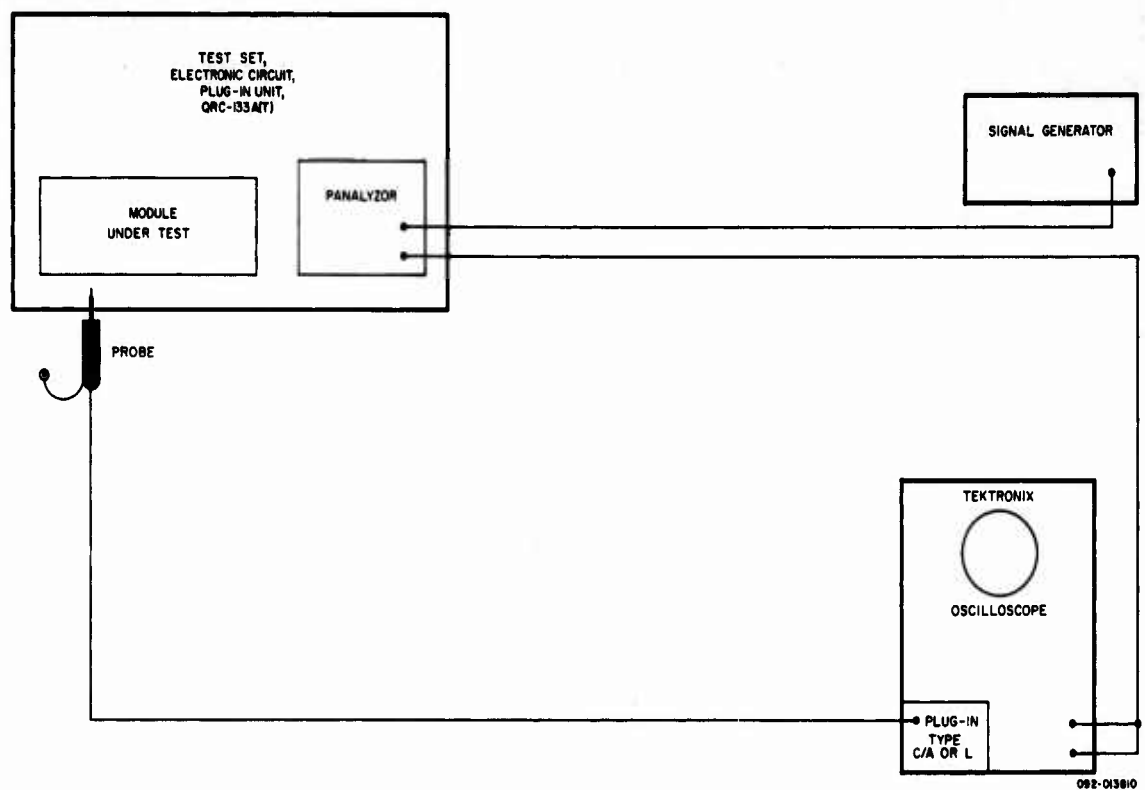
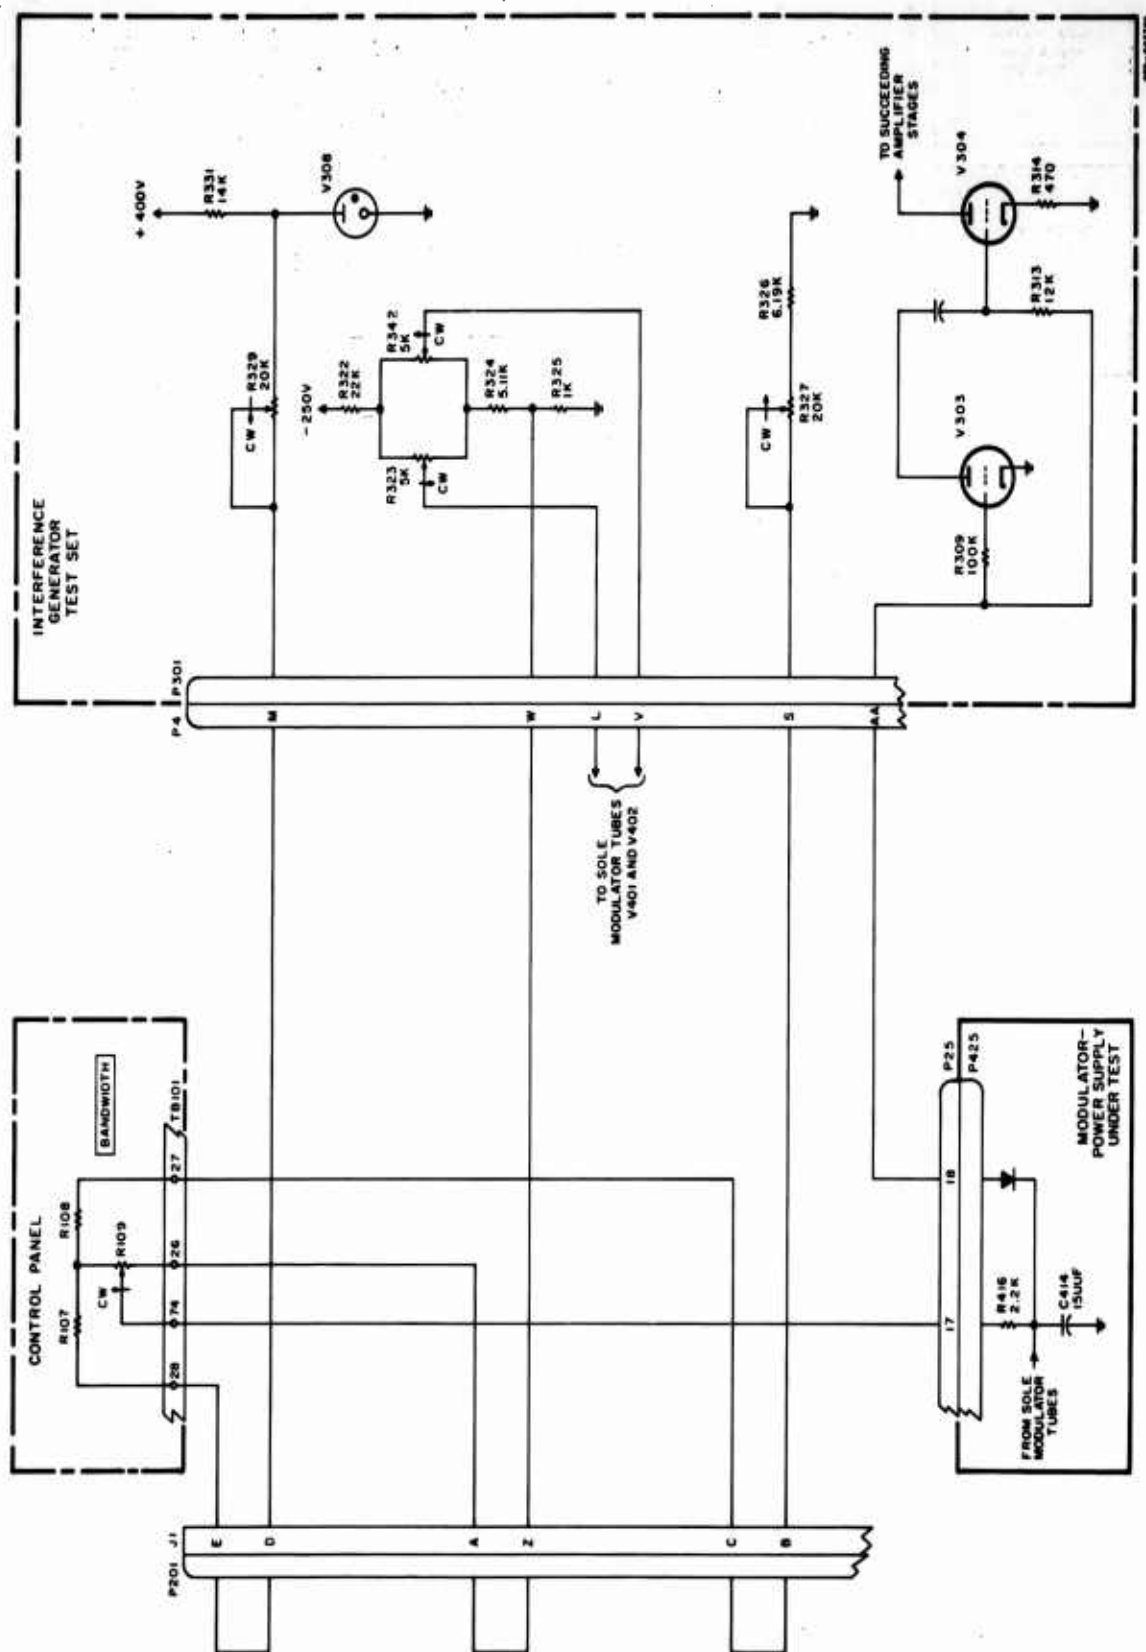
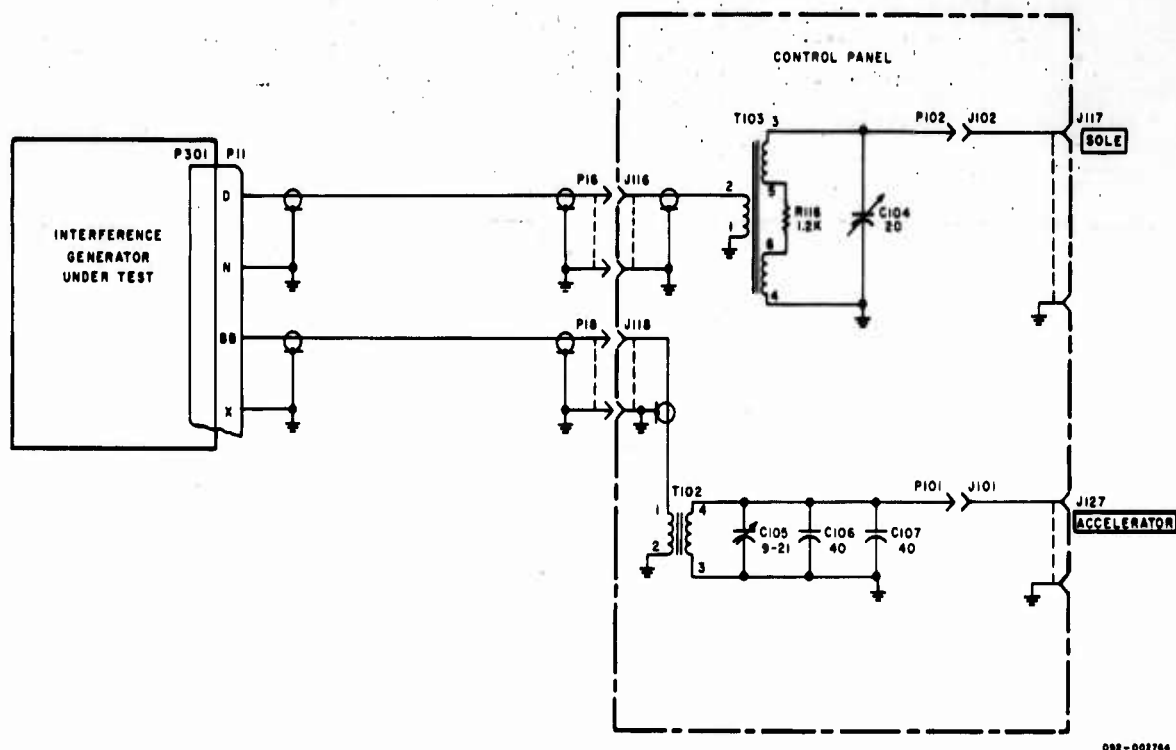

Figure 1-13. Sole and Accelerator Noise Signal Test Setup.
Figure 1-14. Bandwidth Test Control Circuit.
Figure 1-19. Sole and Accelerator Noise Output Test Circuit.
load that simulates the loading effect of the BWO sole circuit. It is part of the sole modulator test fixture. The sole modulator test fixture has the functions of providing the proper environment for the sole modulator and permitting operational adjustments of capacitors C409 and C413 of the sole modulator. The output developed across the load is used as the input to the oscilloscope. Refer to figure 1-13 for the noise signal test setup.
1-82. **BANDWIDTH TEST.** The **BANDWIDTH** control R109 simulates the control function of the RF **BANDWIDTH** control on the control-indicator of the Barrage Jammer QRC-133A (T) system. This control is used when testing either a modulator-power supply module or an interference generator module and allows checking the response of either module to a change in the setting of the **BANDWIDTH** control. When the **BANDWIDTH** control is changed, the grid bias on two amplifier stages (V303 and V304) in the sole noise channel changes accordingly. A change in the grid bias affects the output of the sole noise channel. This output may be observed on the oscilloscope and on the Panalyzer. Figure 1-13 illustrates the test setup for observing this output. The change in output is observed as a change in amplitude. Rotating R109 clockwise increases the amplitude, counterclockwise decreases amplitude. Figure 1-14 illustrates the bandwidth control circuit when a modulator-power supply module is under test. When an interference generator module is being tested, the bandwidth control circuit is similar to the circuit shown in figure 1-14. Figure 1-12 shows the circuit for checking the sole noise channel output of the modulator-power supply module under test. The output is taken from test points A and B of the sole modulator load. Figure 1-19 shows the circuit for checking the sole noise channel output of the interference generator module under test. The output is taken from the SOLE connector J117.
1-89. SPECTRUM ANALYSIS OF NOISE SIGNALS. Figure 1-19 is a simplified schematic diagram of the circuit used for testing and aligning the sole noise output of the interference generator module under test. The signal is fed through a low capacity
cable to the primary of transformer T103, the sole modulator input transformer. Resistor R116, capacitor C104, and the distributed circuit capacity simulate the loading effect of modulator tubes V401 and V402. Similarly the accelerator noise output is fed through a low capacity cable to the primary of T102, the accelerator modulator transformer. The output of the sole load is available at J117 and the output of the accelerator load is available at J127. See figure 1-13 for the noise signal test setup. The interference generator is mounted so that the underside of the chassis is available for intermediate noise checks in either the sole or accelerator noise channels.